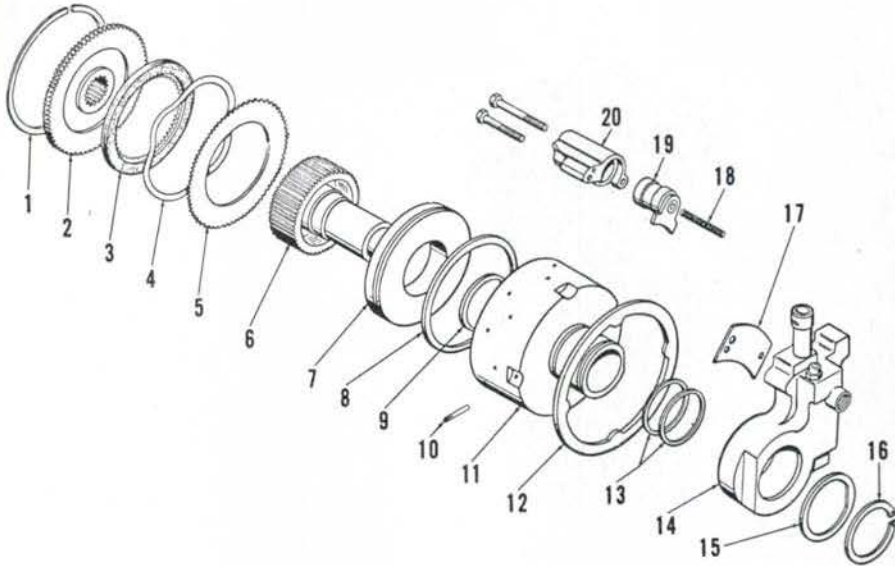

Fig. 167—Exploded view of independent pto multiple disc clutch and hydraulic brake unit.
181. OVERHAUL. To disassemble the removed clutch and valve unit, proceed as follows: Remove snap ring (16—Fig. 167) and thrust washer (15), then withdraw control valve housing (14) with brake cylinder (20) from clutch housing (11). Brake disc (12) is retained to clutch housing by two pins (10). Unbolt and remove brake cylinder (20), piston (19) and wear plate (17) from valve housing.
Install seal rings (13—Fig. 167) on clutch housing and lubricate with hydraulic oil. Install valve housing (14), thrust washer (15) and snap ring (16). Assemble brake piston (19), spring (18) and cylinder (20). Position wear plate (17) under brake disc, then install brake cylinder assembly using a new “O” ring.